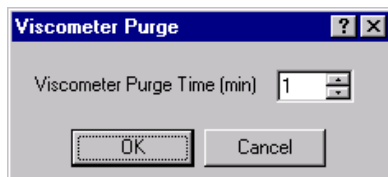

Figure 3-25 Viscometer Purge Dialog Box
3. When the solvent flow reaches the specified rate, select Operations > Visc Purge to open the Viscometer Purge dialog box (Figure 3-25).